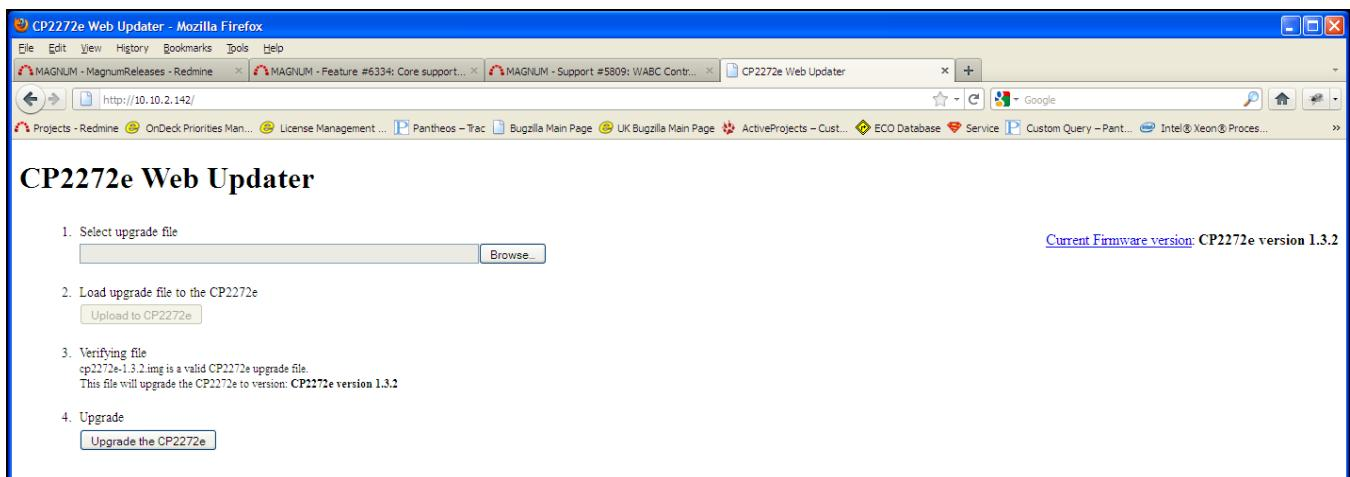

Figure 5-3: Upgrade the CP2272e
4. When the firmware has been successfully uploaded, click on the **Upgrade the CP2272e** button, as shown in Figure 5-3. Selecting this button will upgrade the firmware file using the .img file you previously loaded.